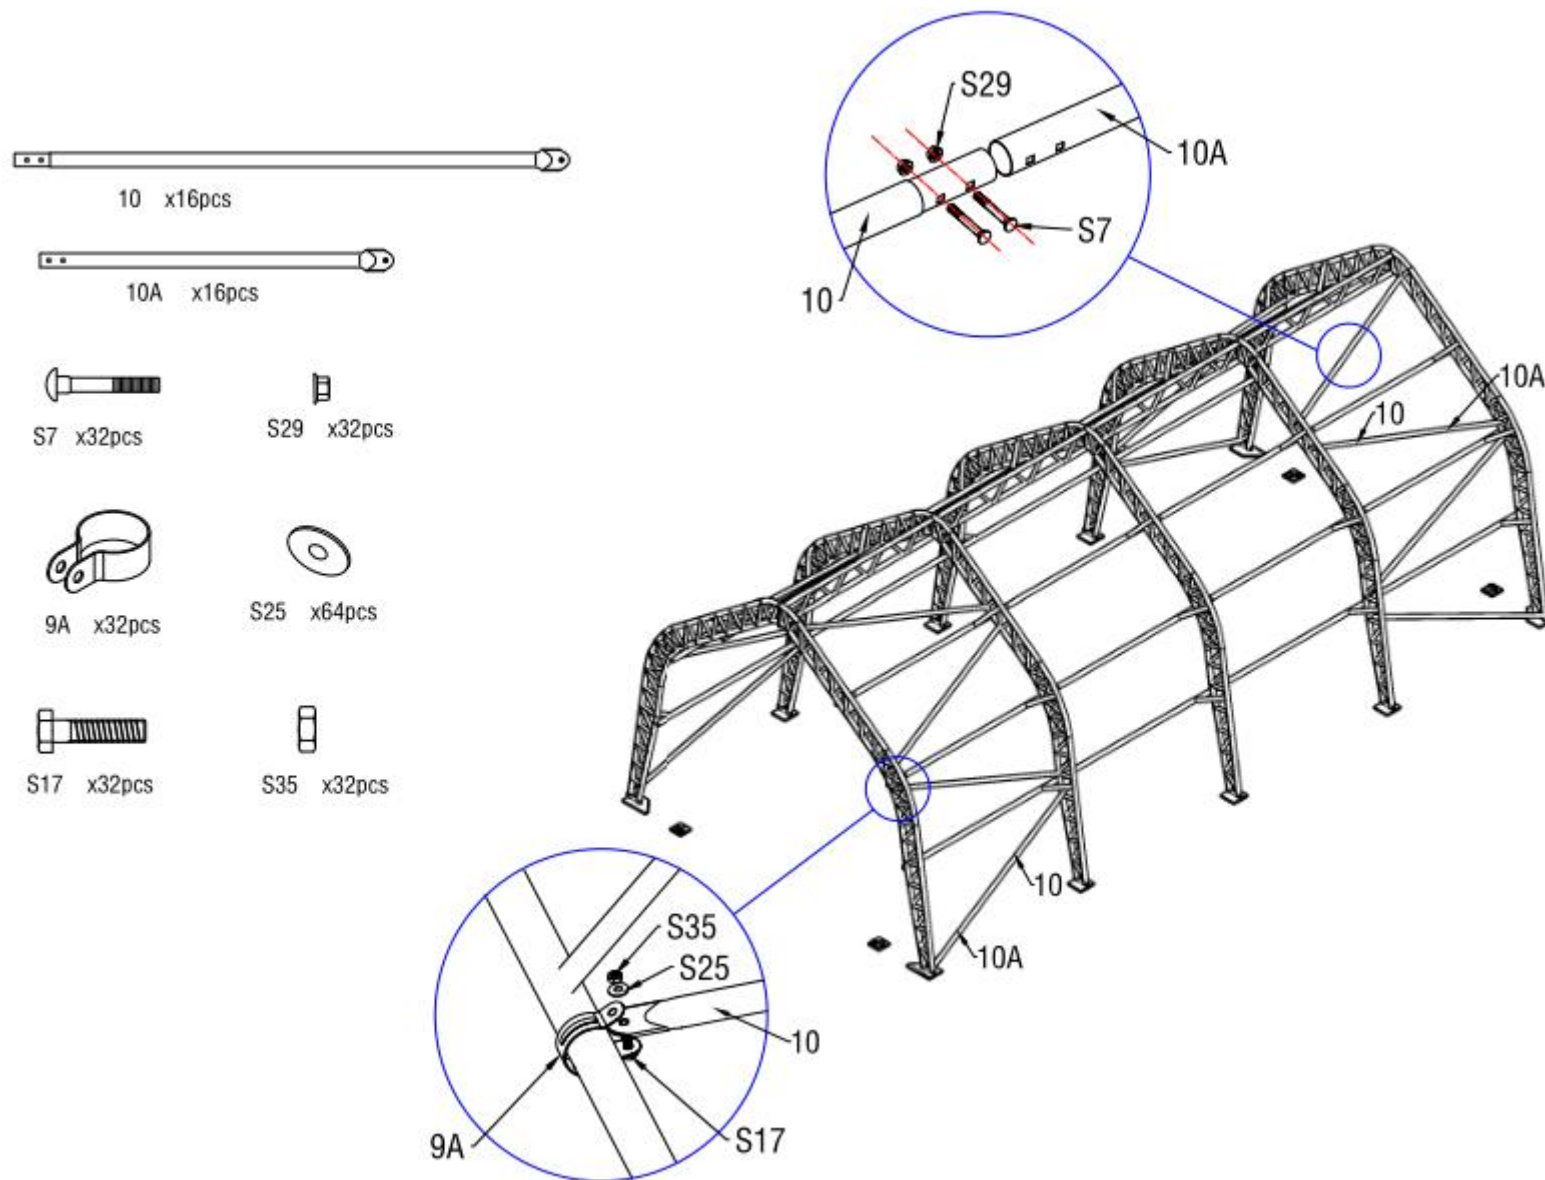

Figure 10
6. As figure 10 shown to find Diagonal Support Female Tube(No.10) and Diagonal Support Male Tube(No.10A) and assemble every group support tube with Carriage bolt M8x60(No.S7) and flange nut M8(No.S29). Then connect the diagonal support tube to arch by using clip(No.9A).